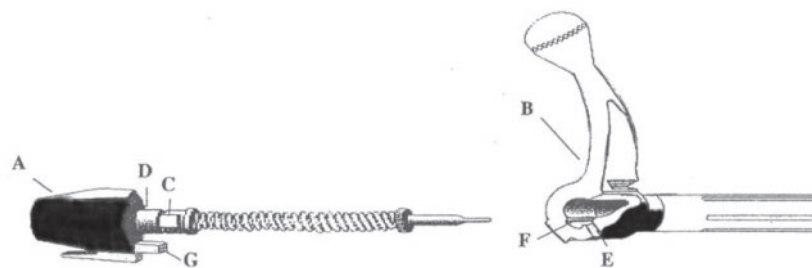

Fig. 7
- a. Referring to the Fig. 7 (below), insert the firing pin bolt sleeve assembly (A) into the bolt body (B), aligning the square boss (C) on the bolt sleeve shank (D) with the indexing groove (E) on the bolt body (B).
- b. Rotate the firing pin bolt sleeve assembly (A) counter-clockwise (as viewed from the rear), until the nose of the cocking piece (G) falls into the detent (E) near the cam opening (F).